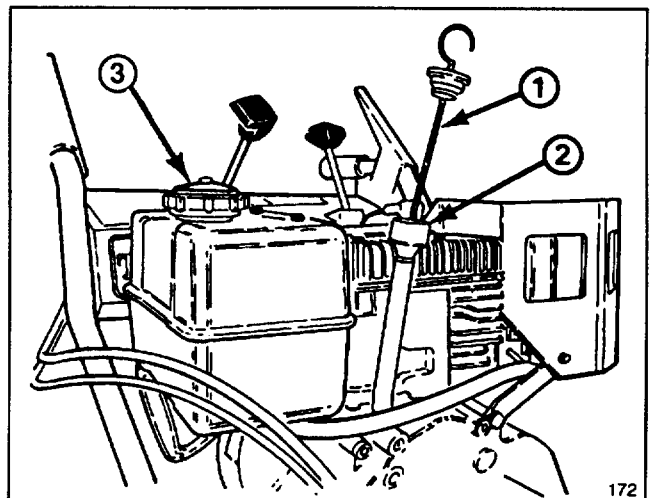

Figure 8
FILL CRANKCASE WITH OIL (Fig. 8)
3. Remove dipstick from crankcase (Fig. 8).
1. Clean area around the fuel tank cap (Fig. 8). Remove cap from fuel tank. Using unleaded, regular gasoline, fill tank to within 1/4" to 1/2" (6 to 13 mm) from the top of the tank, not into the filler neck. This space is for expansion of fuel. Do not fill tank full. Reinstall fuel tank cap.